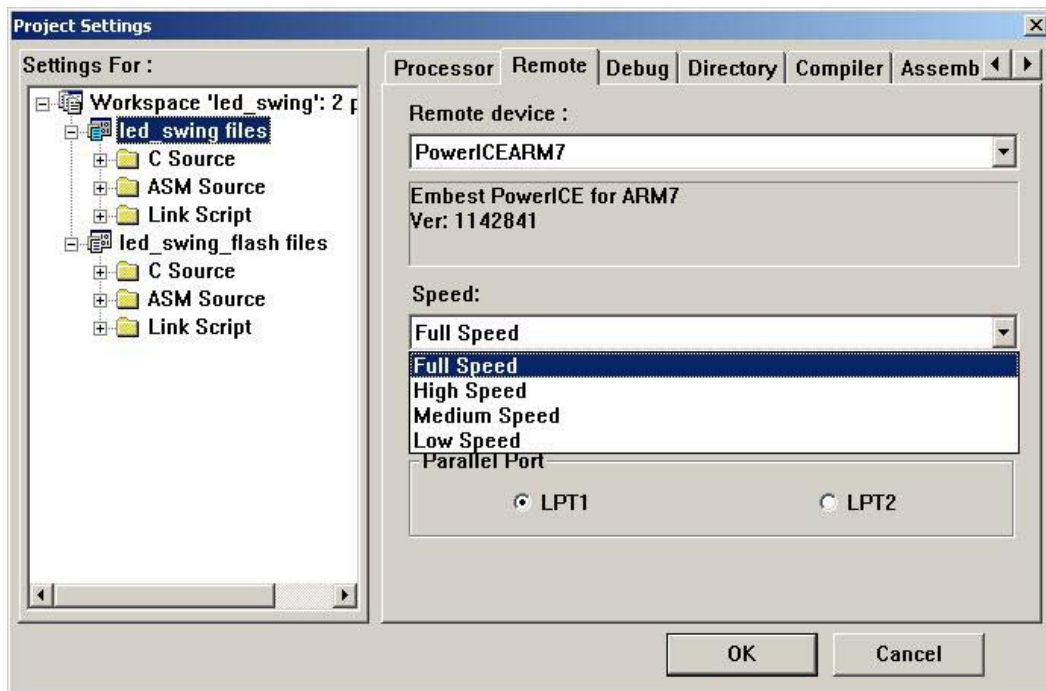

Figure 5-13 Embest PowerICE for ARM work speed
**Speed:** setting the Emulator work speed. Embest Emulator for ARM was worked at constant speed 25Kbyte per second, and Embest PowerICE for ARM was support to change the working speed valid: Full Speed(120Kbyte/s)、High Speed、Medium Speed、Low Speed. The valid work speed of Embest PowerICE for ARM show as following figure 5-13: